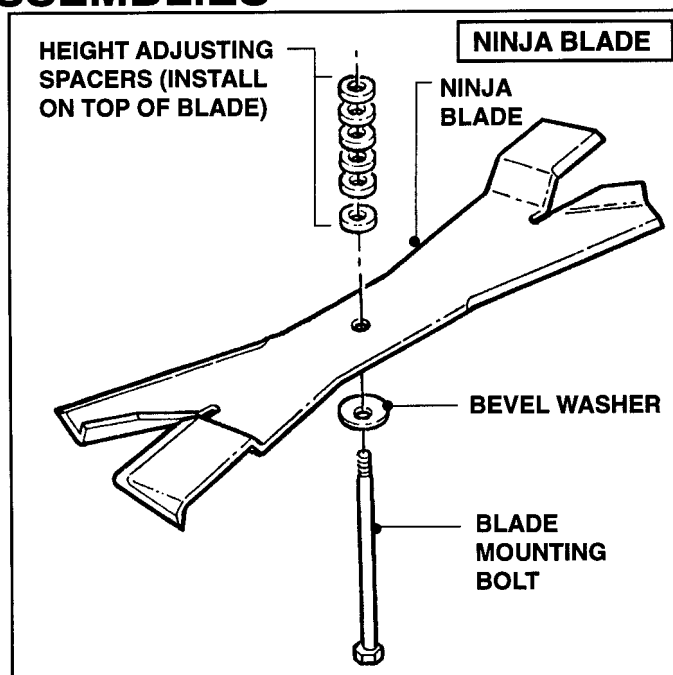

FIGURE 4.12
Regardless of the location of the Blade Spacers **when the blade is removed, all** spacers should be placed at the bottom of the spindle when replacing the blade. This arrangement will provide an "low-as-possible" cut. See Figure 4.12, Page 4.7.
- B. Install all Spacers on top of Blade. See Figure 4.12.